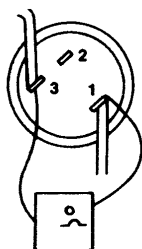

FIGURE 10. OVERLOAD CHECK
## OVERLOAD CHECK – FIGURE 10.
3. Check terminals 1 and 3 on overload. No continuity replace overload. Use a volt-ohm meter. See Figures 10 and NO TAG
**NOTE:** Gear motor and related components can be checked from Pin Connector. See Figures 10 and NO TAG.